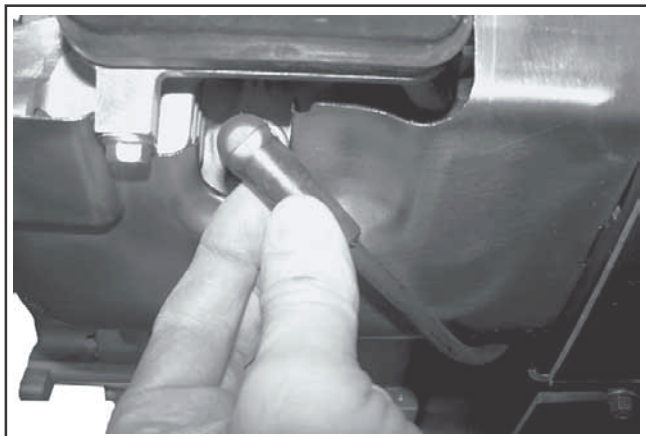

Figure 10-114. Connect Spark Plug Leads.
1. Connect the leads to the spark plugs. See Figure 10-114.